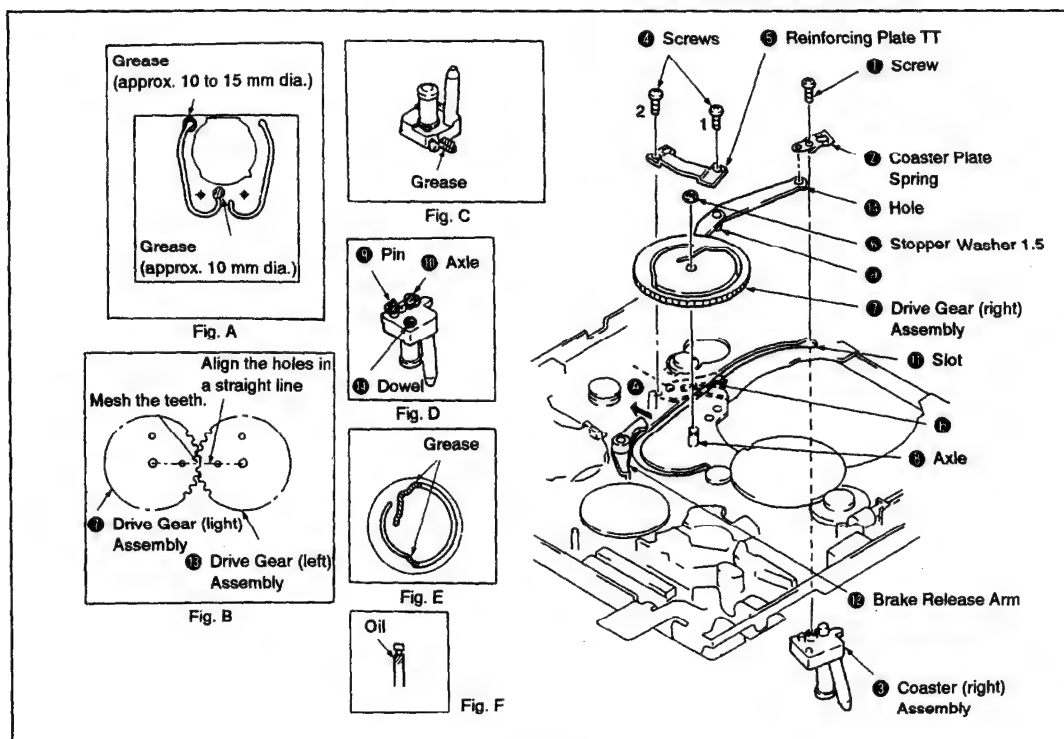

Fig. 3-19.
1. Removal (See Fig. 3-19.)
2. Installation (See Fig. 3-19.)